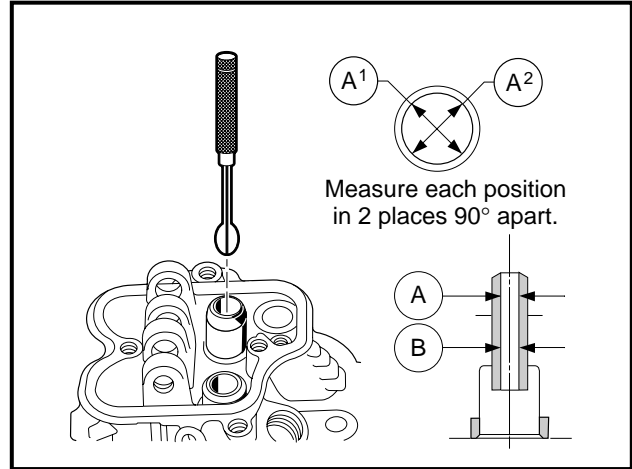

Figure 13-19 Measure I.D. of Valve Guides
1. Measure the inside diameter of each guide with a telescoping gauge (**Figure 13-19, Page 13-13**).